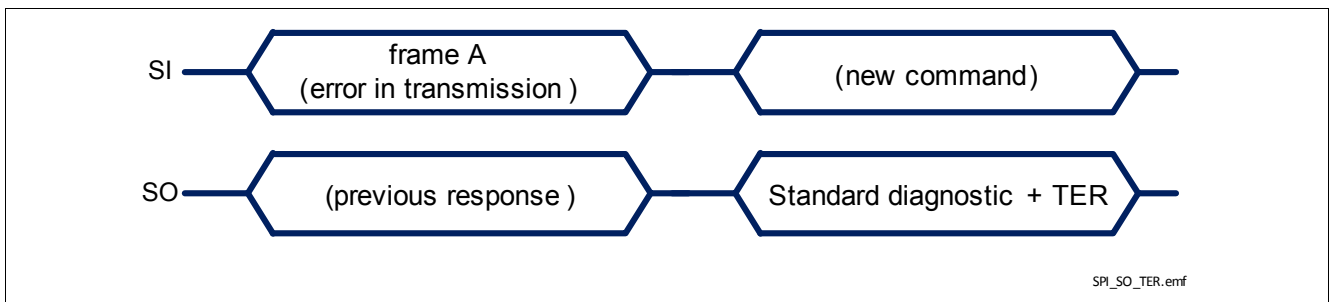

Figure 32 BTS54220-LBB response after an error in transmission
- in case an error in transmission happened during the previous frame (for instance, the clock pulses were not multiple of 8), shown in Figure 32